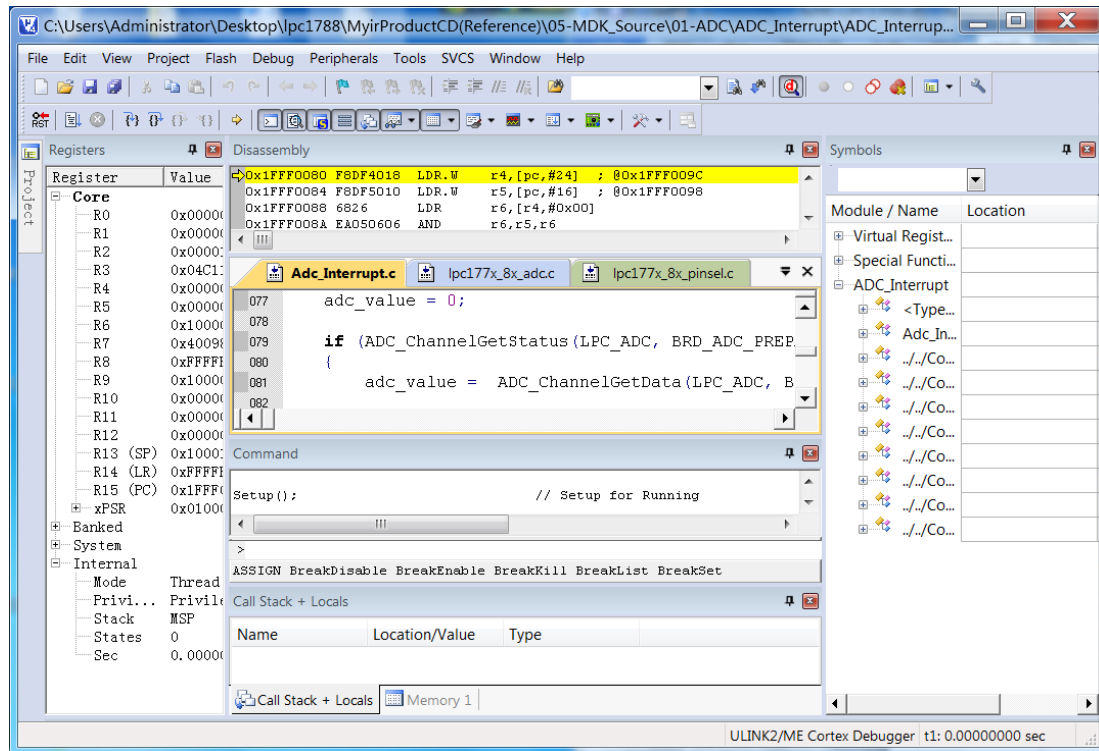

Figure 3-8
(4) Click Ctrl+F5 or shortcut icon, or select Debug->Start/Stop Debug Session to start debugging. Refer to figure 3-8: